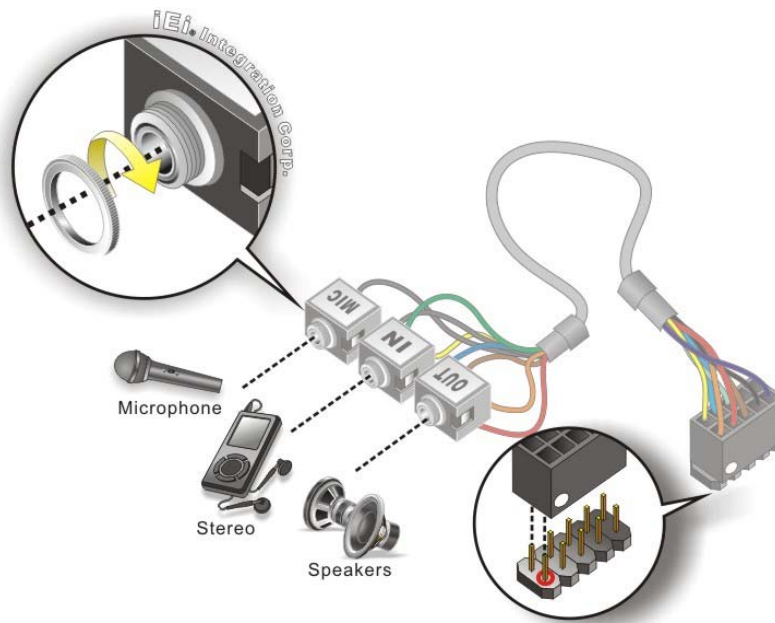

Figure 4-21: Audio Kit Cable Connection
Step 2: **Align pin 1.** Align pin 1 on the on-board connector with pin 1 on the audio kit connector. Pin 1 on the audio kit connector is indicated with a white dot. See **Figure 4-21**.